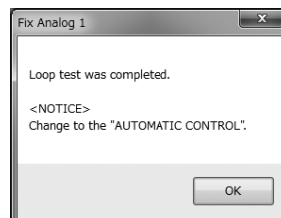

Fig.130
- ⑤ After the "Stop" button is clicked, a message box (Fig. 130) will be displayed. Click the "OK" button.